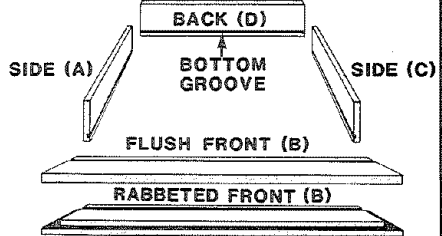

Fig. 12
4. Mark the boards for the drawer or box on the inside with identifying letters near the bottom edge. See Figure 12.
5. Mark the boards for the drawer or box on the inside with identifying letters near the bottom edge. See *Figure 12*.